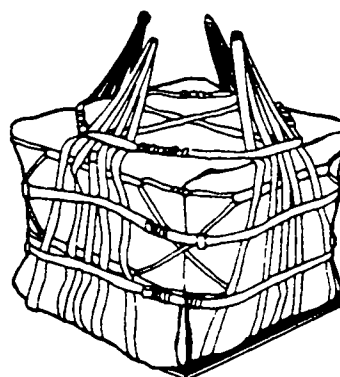

Figure 8-5. Fastening Upper Lateral Straps
Step 8 - Fasten the upper lateral straps in the same manner as in Step 7 (Figure 8-5). If the load is not high enough for the upper lateral